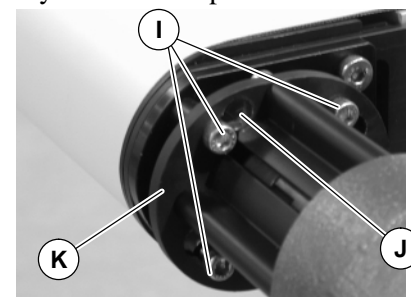

Figure 5
4. Slide mounting screws (I of Figure 5) through slots (J) in gearmotor bracket (K) and rotate gearmotor assembly into desired position.